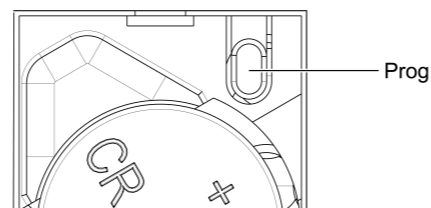

Figure 2: Prog Button in the battery compartment
- Press **Prog** (Figure 2) button briefly. The status LED lights up red. Hand-held transmitter is in configuration mode for 10 seconds.